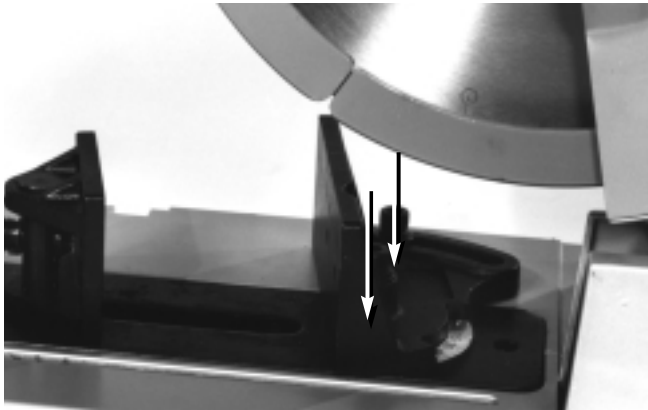

Figure 2 – Fence Adjustment For Angle Cut
1. Dry Cut Saw is equipped with a two-lever vise that can be adjusted to make an angle cut from 45° to 90°, right and left. To adjust the vise, loosen the two bolts of the fence guard and move to the desired angle (*Figure 2*). Retighten the bolts to lock the fence guide in place.